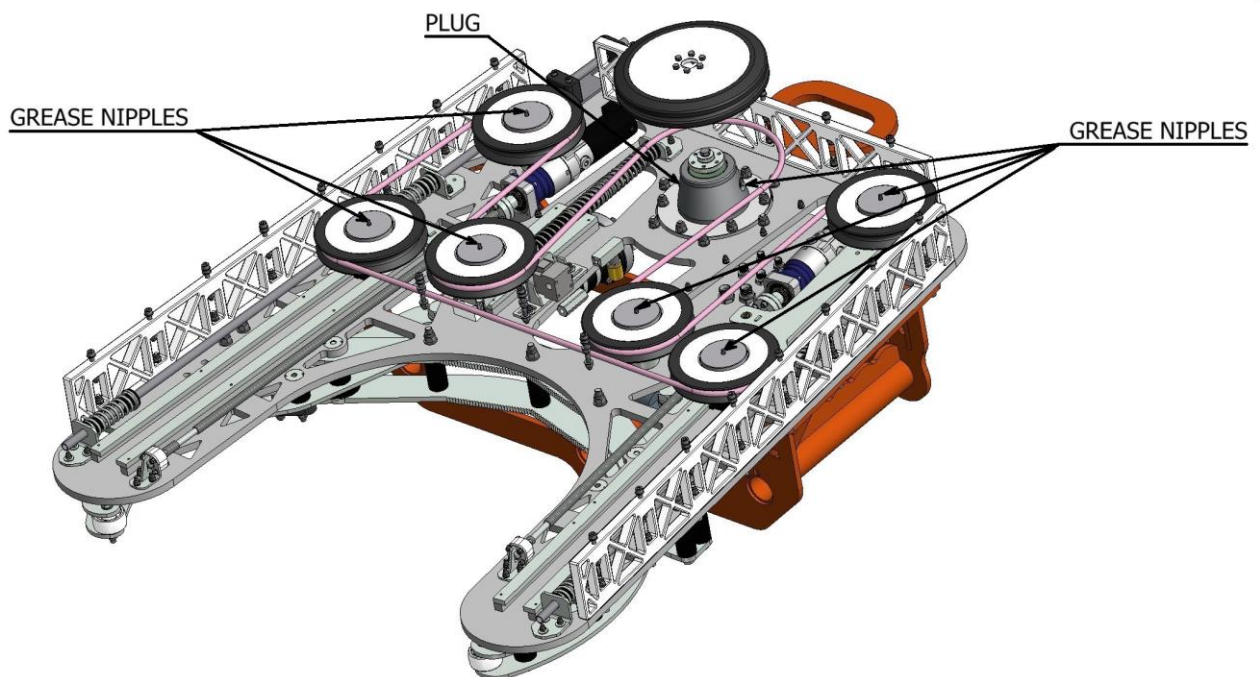

Fig. 13 : Grease nipples and plug location
- Check/Fill Gear Housing with grease after use (Fig. 13 : Grease nipples and plug location);